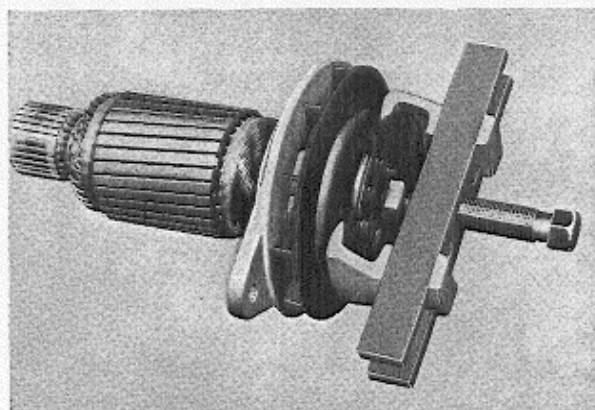

Fig. 40. Removing the belt pulley.
6. Place the rotor in a vice but do not tighten too hard (use copper jaws). Unscrew the nuts for the belt pulley and pull this off. Use a suitable tool as shown in Fig. 40. Remove the Woodruff key.